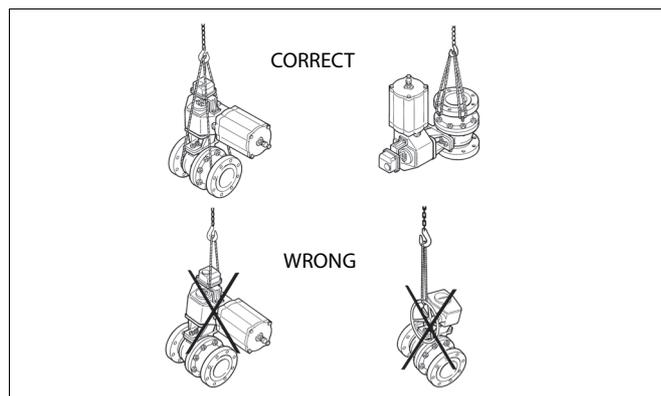

Fig. 9 Lifting the valve
Place the lifting ropes securely around the valve body (see Fig. 9).
- Support the valve carefully with a hoist. Place ropes carefully and unscrew the pipe flange bolts. See that the ropes are positioned correctly, see Fig. 9. Lift valve down.